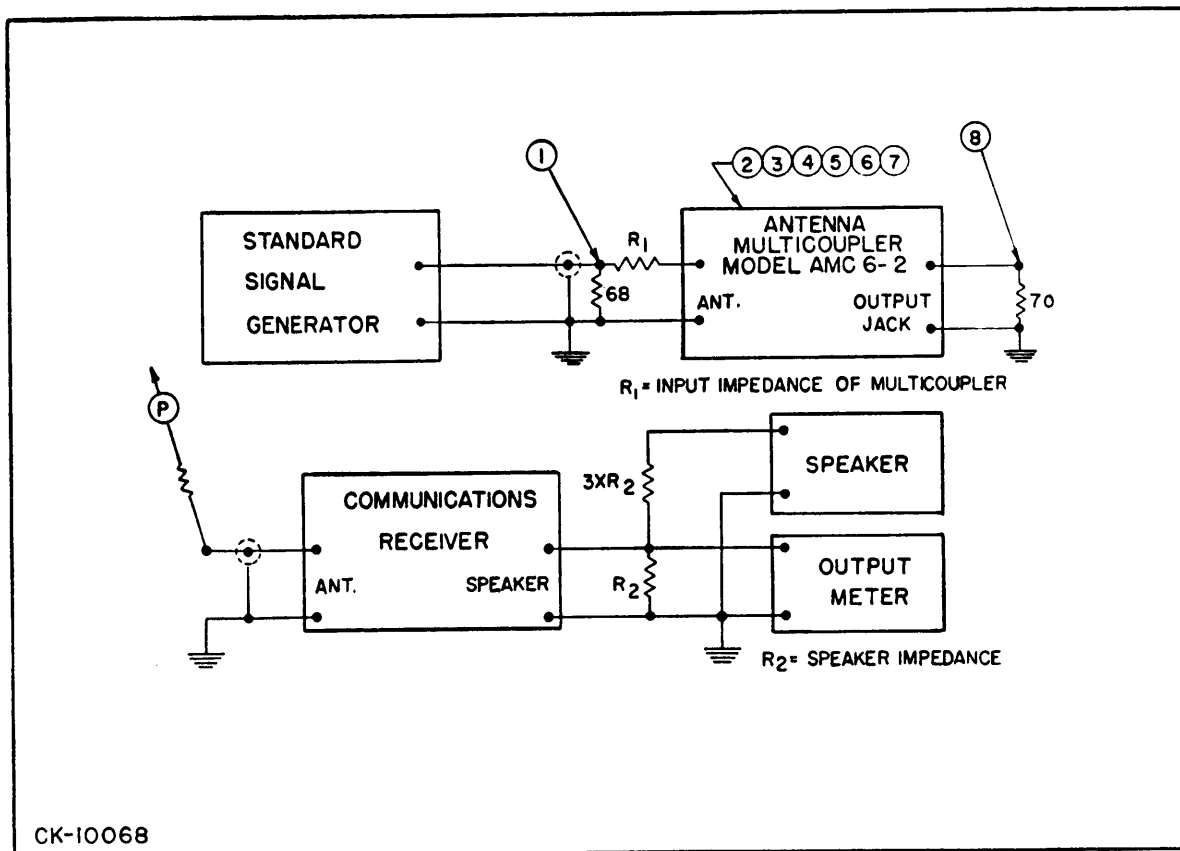

Figure 5-1. TEST SET UP FOR GAIN MEASUREMENTS
c. The spurious signal amplitude to be expected from two signals applied at the input of the multicoupler is shown in Figure 6-2. Every precaution has been taken in the design of the instrument to minimize intermodulation effects in the receiving system. At the low end of the band (where high level signals from local broadcast stations are likely) filter FX101 becomes effective. Sufficient attenuation is provided by the filter so that signals are reduced to a level where they are ineffective in the production of spurious signals. The filter may be switched out or in as desired. In some instances the location of the receiving station is such that excessive signals from a powerful local station may cause serious intermodulation effects in the receiving system. This, however, should not be troublesome for signals under 10,000 microvolts. Should it be found that signals of a higher order than 10,000 microvolts are causing serious intermodulation effects, additional filters may be inserted in the antenna transmission line. A suggested method of locating the frequency or determining the amplitude of interfering signals can be obtained by referring to the test set-up in Figure 5-1. First, disconnect the multicoupler from the circuit and connect the antenna lead together with test probe (P) to test point (2); set the signal generator to the unmodulated condition and turn the attenuator to zero. Tune the receiver until a strong signal is located and turn on the BFO switch; adjust the gain controls for a convenient reading on the output meter using the highest signal obtained on either side of zero beat as a reference voltage. Move the tuning dial until the signal disappears; adjust the frequency and attenuator controls of the signal generator until a voltage comparable with the reference voltage is obtained on the output meter. The signal generator setting in microvolts indicates the strength of the signal pick-up by the antenna while the first tuning dial position of the receiver indicates its frequency.
c. Faults which are difficult to locate by other means may be isolated by the test set up shown in Figure 5-1. The signal generator should be set for a modulated condition of 1000 cycles per second and a modulation depth of 30 per cent. Next set up the receiver gain controls for use as a fixed level detector. To do this connect test probe (P) to test point (3); set the signal generator attenuator to 100 μV ; turn the receiver audio gain control up, and with the BFO off adjust the manual RF gain control to a minimum value for a convenient voltage reading on the output meter. Connect test probe (P) to other test points and adjust ONLY the signal generator attenuator to obtain the same output meter reading as before. Record the attenuator settings in a table similar to Table 5-2. Ratios between the microvolt settings in this table can be used to locate quickly any circuit fault in the multicoupler.